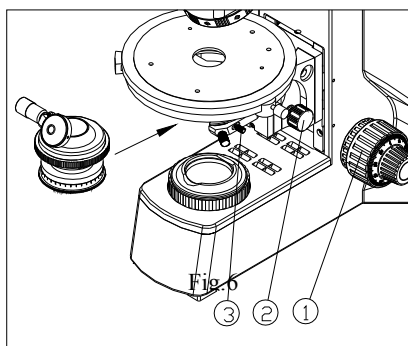

Fig.6
- (1) Rotate the coarse focusing knob① to raise stage to the highest. (See Fig. 6)
- (2) Rotate the condenser up-down knob② to move the condenser bracket to the lowest.
- (3) Loosen the condenser lock-screw③ fully.
- (4) Swing out the front lens of condenser④ with the scale forward. Make the lock screw⑤ of condenser in alignment with the groove⑥ of the condenser base. Push the condenser into the innermost of base.
- (5) Screw down the condenser lock screw, and raise the condenser to the highest position with the condenser up-down knob.